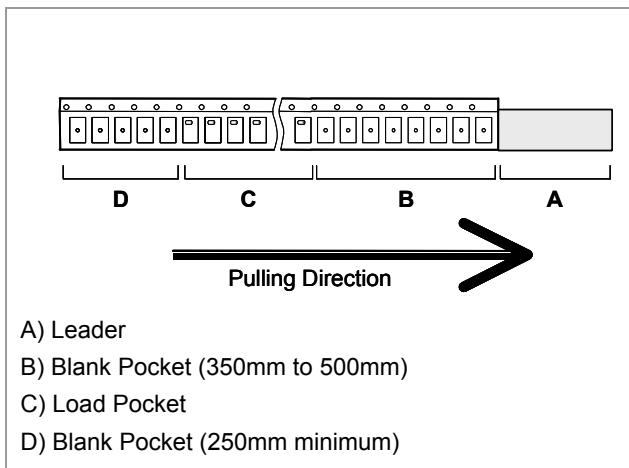

Fig.9 Taping
- Package shall consist of leader, blank pocket and loaded pocket as follows. "Fig.9"